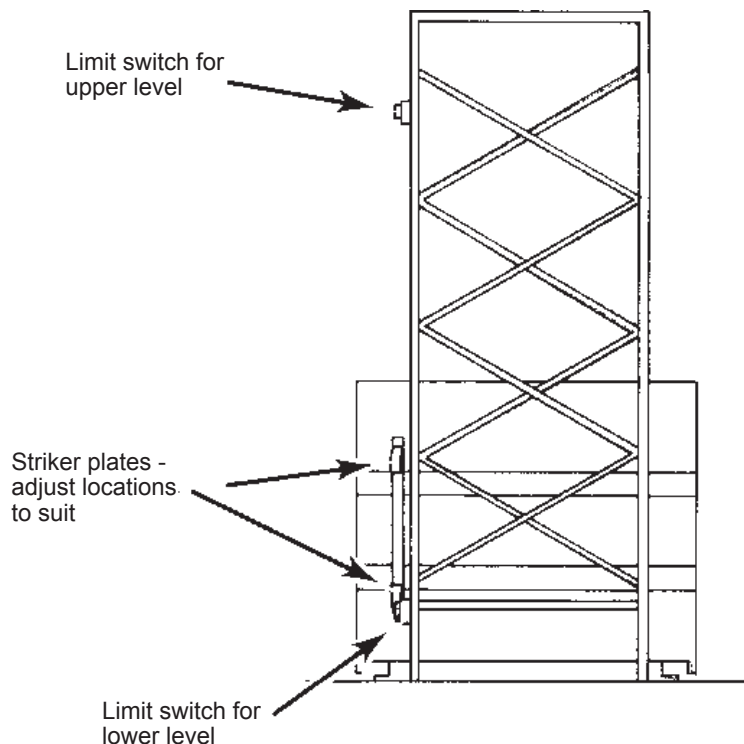

Fig. 2-11 – Limit Switches, Two-Level Unit
1. At each level, the lift platform should stop at the same level as the floor. On a two-level unit, there are two limit switches which control the platform stopping positions. See Fig. 2-11. To make large adjustments in the stopping point, you can move the two striker plates on the back of the lift platform. The lower striker plate sets the stopping position at the lower floor level. The upper striker plate sets the stopping position at the upper floor level. These strikers are mounted on tracks. To change the stopping position of the lift platform at a certain level, move the striker up or down in the track.